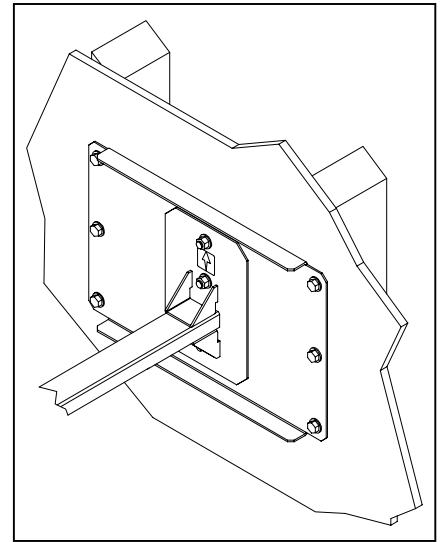

Figure 1
- Step 3.** Mount the Wall Stud Adapter Plate to the wall using the recommended mounting hardware (not included). Make sure the **"THIS END UP"** label's arrow points towards the ceiling (Figure 1).